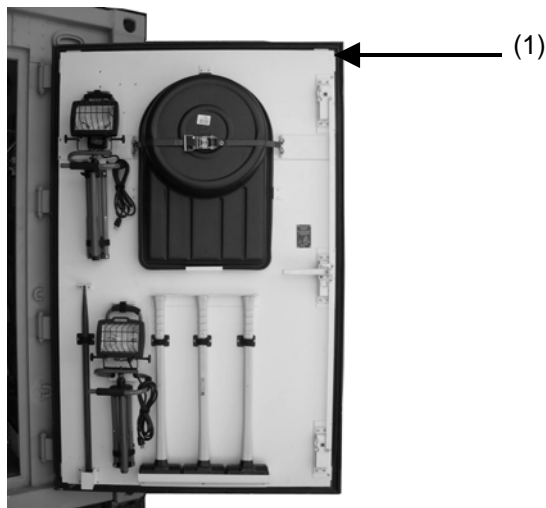

Figure 4-54. Door assembly
1. Remove old door gasket (1) from exterior doorjambs and discard (Fig. 4-54).